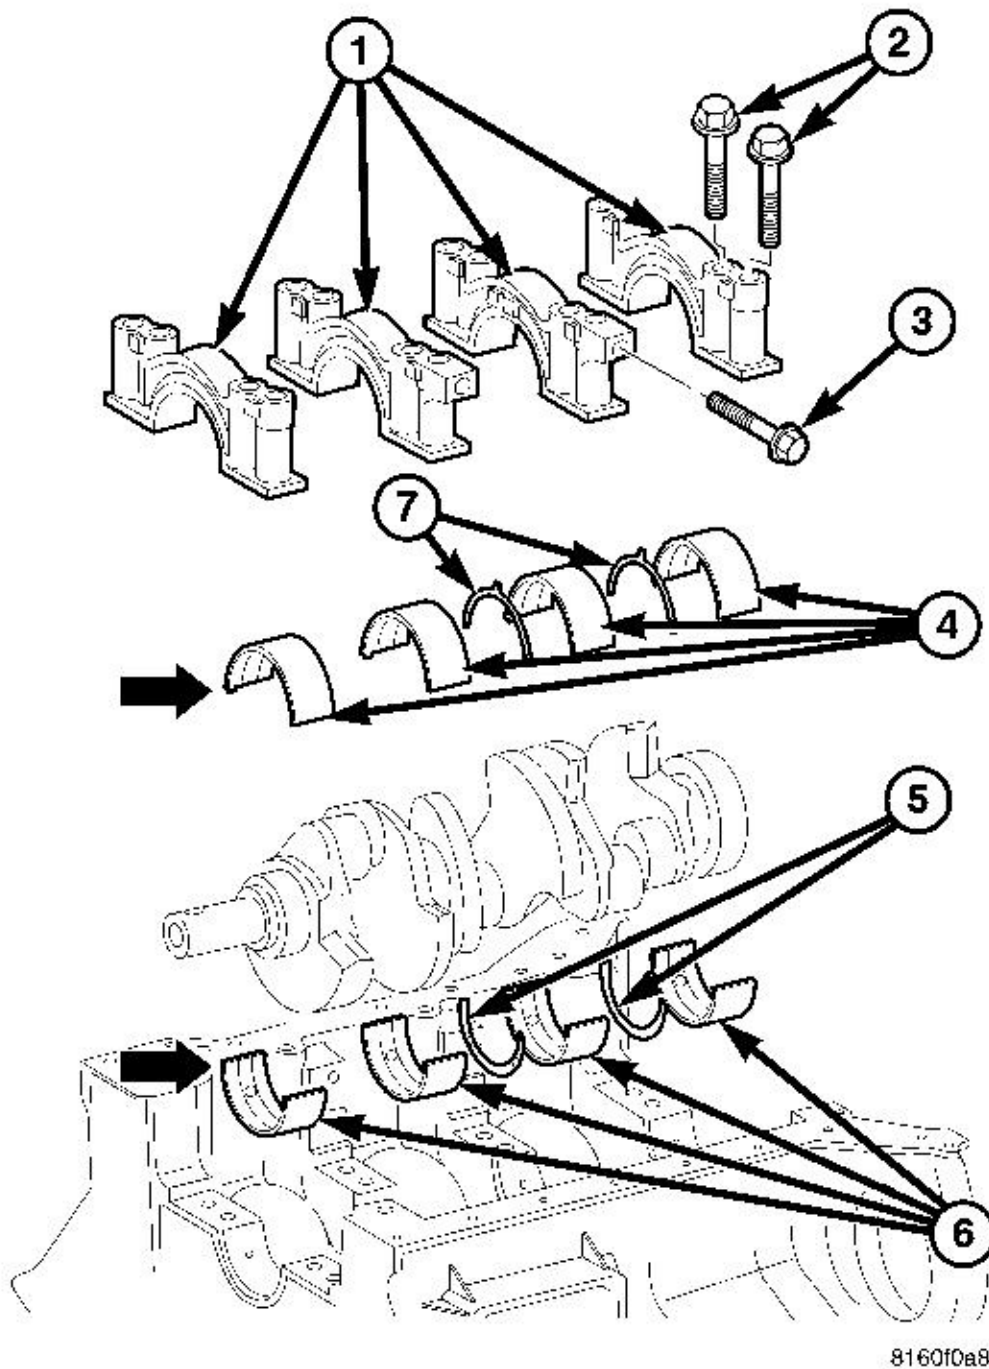

Fig. 285: Crankshaft Main Bearings And Caps
The number three main bearing cap serves as the thrust washer (5) location. See **Fig. 285**.